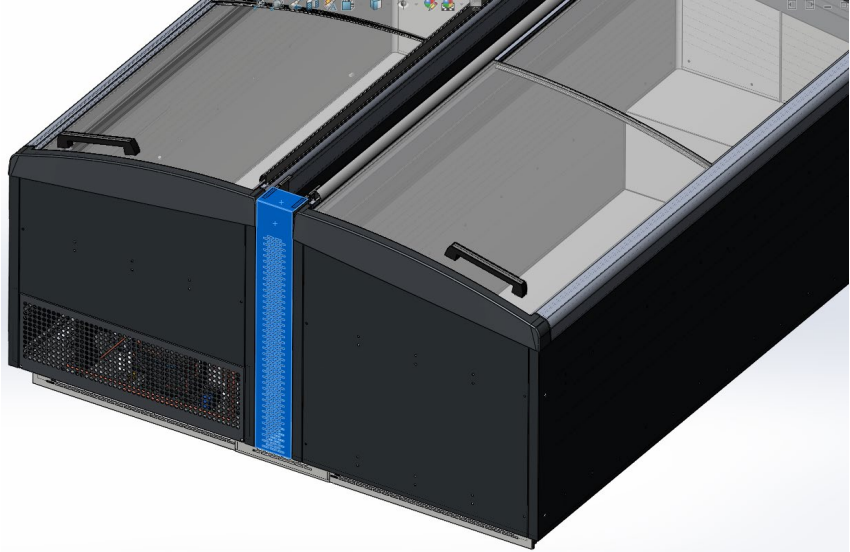

Figure 4.2.4. End insert.
4. The end insert is installed on the bracket and fixed from below with screws to the file connector (Fig. 4.2.4).